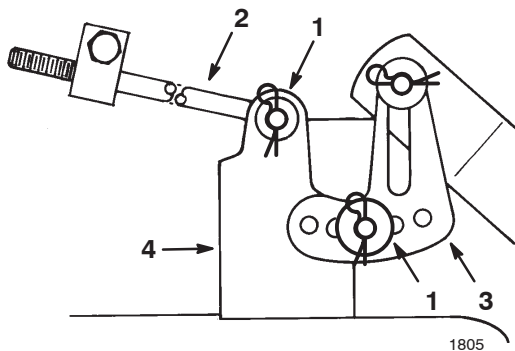

Figure 38
9. Remove the hairpin cotter and washer from the end of the long rod (Fig. 38). Slide the rod out of the mower mount.
10. Remove the hairpin cotter and washer at the mower leveling bracket (Fig. 38). Slide the bracket off of the mounting pin. Install the washer and hairpin cotter for storage.